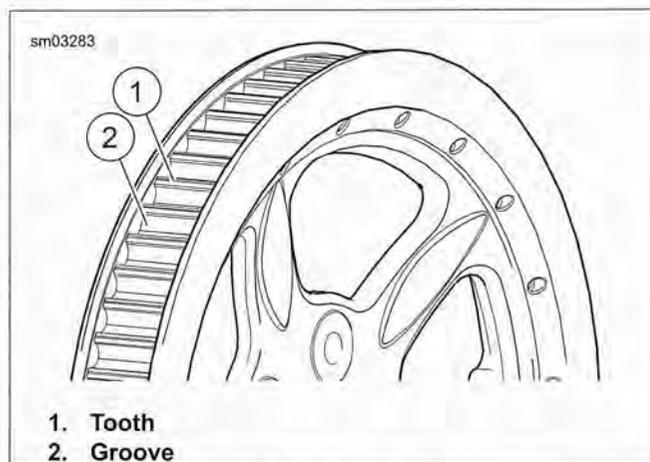

Figure 1-45. Rear Sprocket
1. See Figure 1-45. Inspect each tooth (1) of rear sprocket for:
2. To check if chrome plating has worn off, drag a scribe or sharp knife point across the bottom of a groove (2) (between two teeth) with medium pressure.